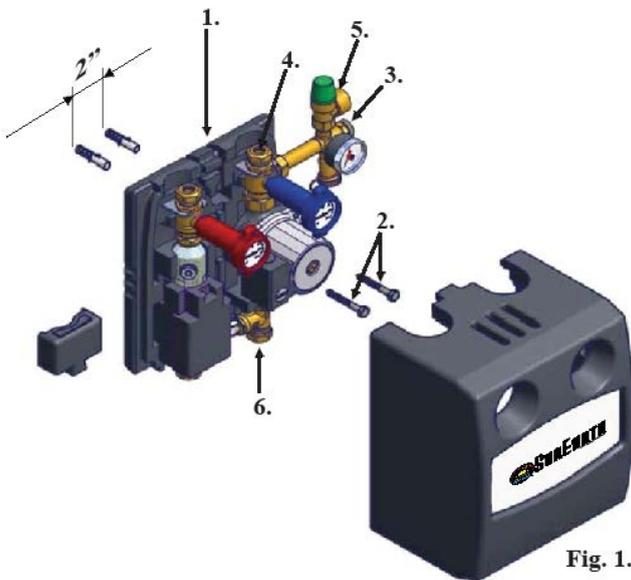

Fig. 1.
### Mounting (Fig.1)
- Remove front insulation cover (5).
- The SunStation (Fig. 1) forms a unit with the wall bracket and the rear insulation cover, it is attached from the front with screws into a wall stud or with wall plugs and screws (2) into masonry wall or suitable load bearing structure.
- Once the wall bracket and rear cover (1) are secured to the wall, the module components can be replaced and secured with the two wire clips.
-Connect the safety assembly (3) (supplied separately with the module) to the outlet supply to collector fitting (4) above the pump using the 3/4" half union nut. The package accompanying the